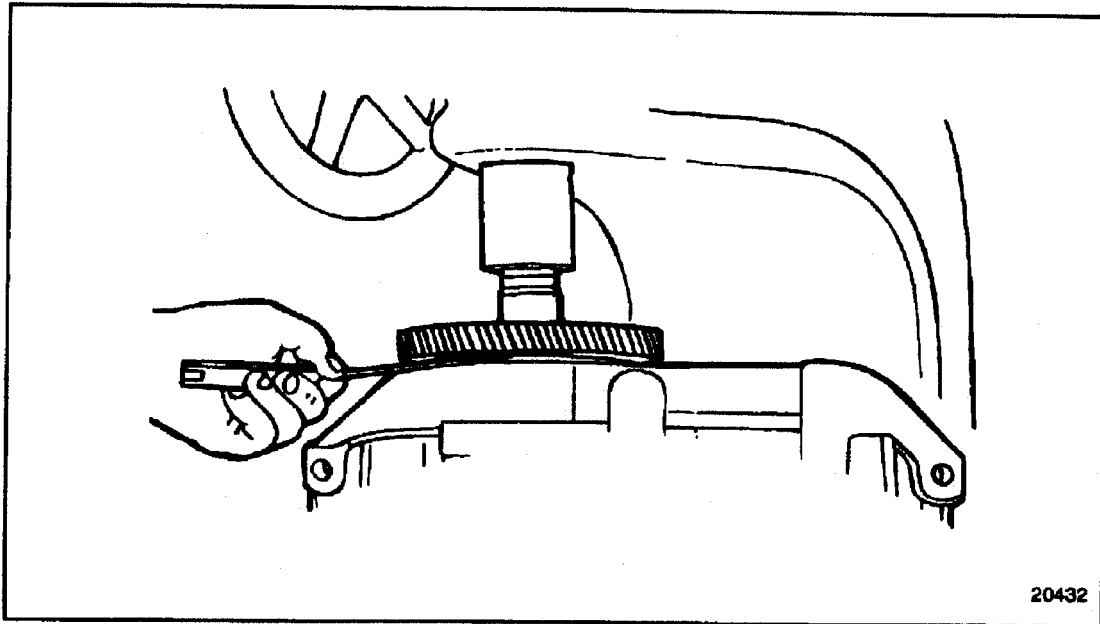

Figure 3-7 Oil Pump Drive Gear Installation
6. Press the drive gear onto the shaft until a clearance of 1.00 mm (0.039 in.) is obtained between the inner face of the gear and the pump body. See Figure 3-7.
1. Lightly coat the drive shaft bushings with clean engine oil. See Figure 3-7.